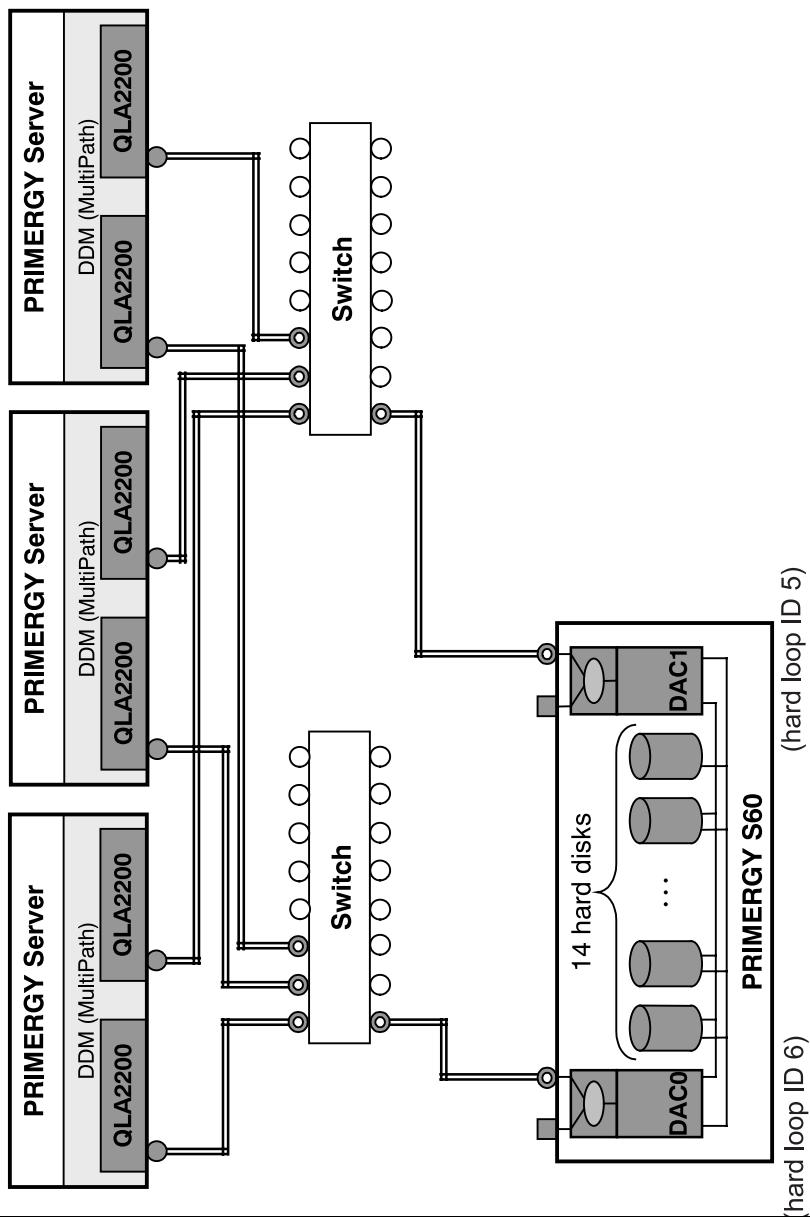

Figure 29: SAN Mapping with MultiPath in Switch Configuration
- Loop IDs (see figure 29 on page 44) for FFx, HBAs disabled